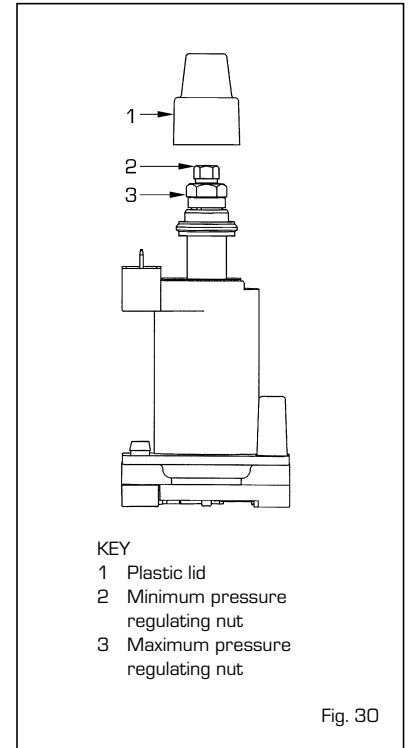

Fig. 30
- With the D.H.W. potentiometer knob on the maximum value, the hot water cock open and the burner alight, holding the nut (3) blocked, turn the screw (2) to find the minimum pressure value as shown in **Table 4**: to decrease the pressure turn the nut anti-clockwise and to increase the pressure turn the nut clockwise.
- Replace the plastic cap (1)
4.2.2 Maximum and minimum pressure adjustment HONEYWELL VK 4105M (fig. 30)